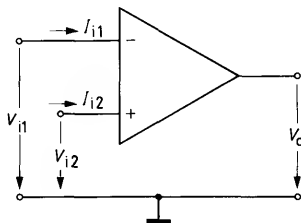

Fig. 2
- a) Input offset voltage V_{io} is the dc voltage which must be applied between the input terminals to force the quiescent dc output voltage to 0V (Fig. 2).
- b) Input current I_i is the current required for the operation of the OP (Fig. 2).
- c) Input offset current I_{io} is the difference between the currents into the two input terminals with the output at zero volts. At high values of generator resistance I_{io} can cause difficulties (Fig. 2).